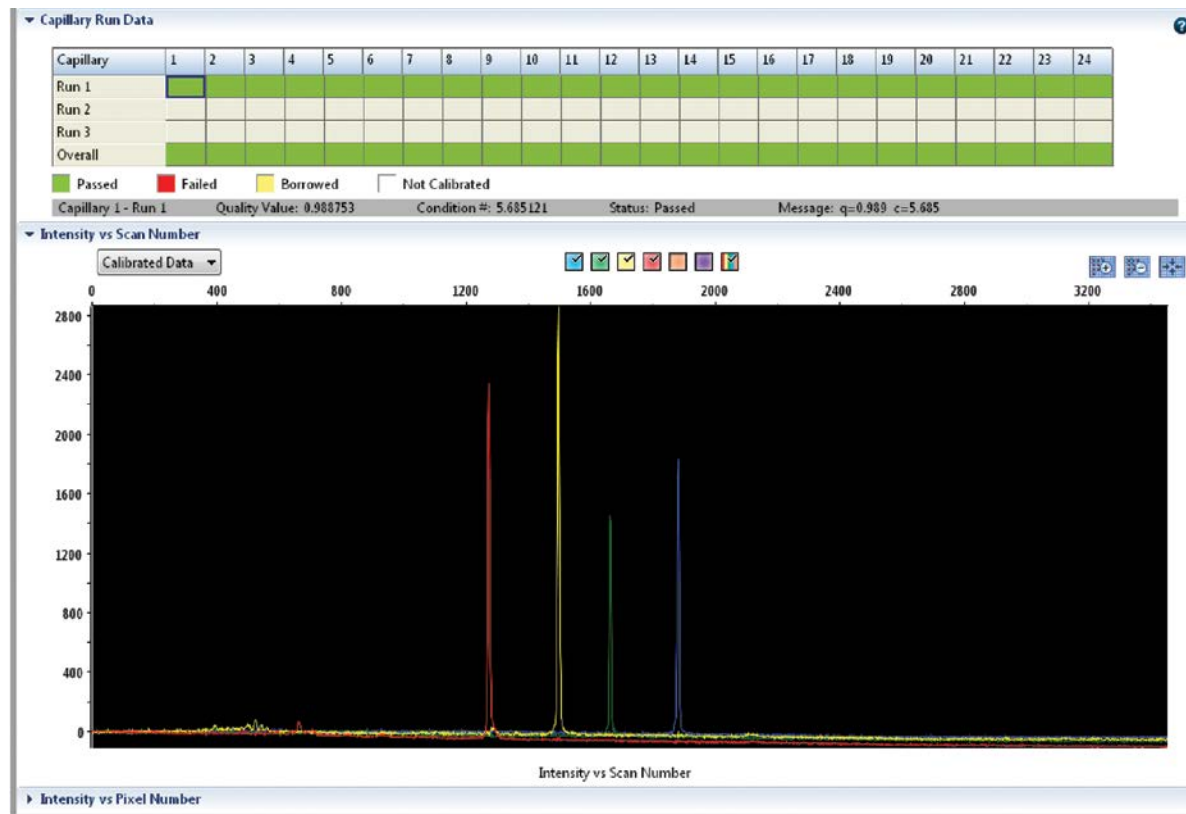

Figure 4. The Capillary Run Data display.
- If fewer than the recommended number of capillaries pass, the spectral calibration run will be repeated automatically up to two more times. Upon completion of the spectral calibration, check the quality of the spectral calibration in the Capillary Run Data display (Figure 4). Choose either “Accept” or “Reject” (not shown).